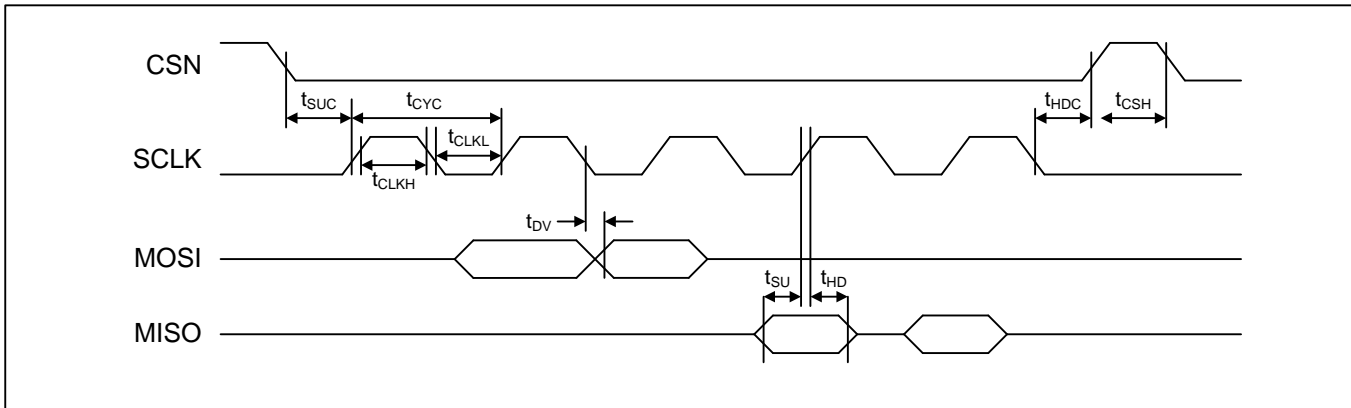

Figure 18 - SPI Master Interface Timing
- Note 3:** See timing diagram in Figure 18.